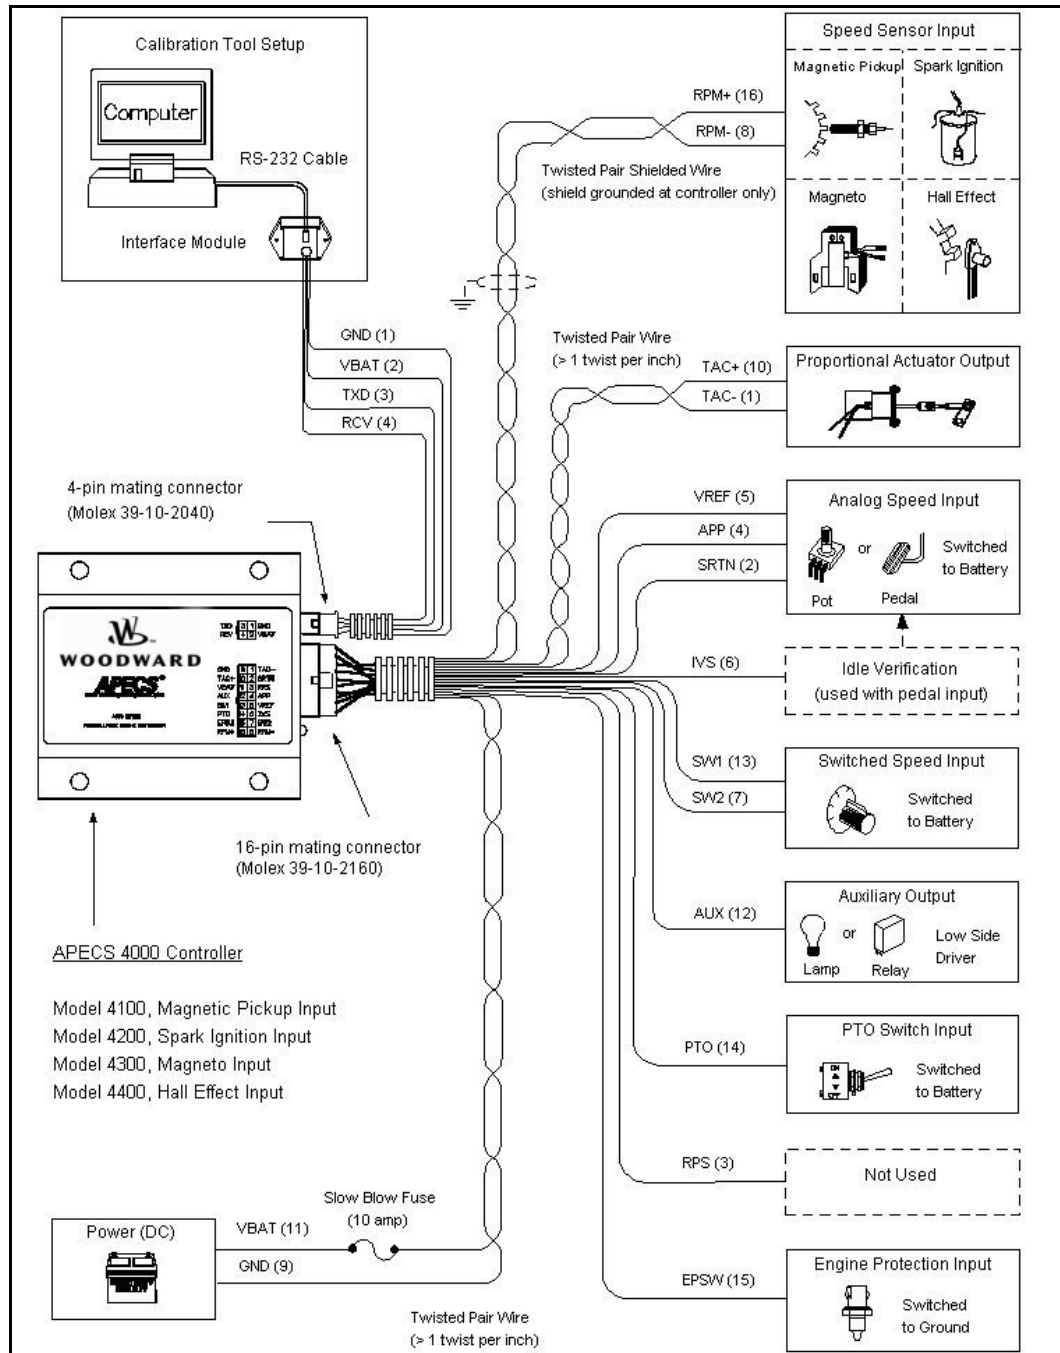

Figure 2. APECS 4000 Wiring Diagram
1. Refer to **Figure 2** and **Tables 1 and 2** to install the system and subcomponents
2. Mount the unit in a location where the effects of vibration and temperature are within the specified range. Operating temperature: -40°F to +185°F (40°C to +85°C); vibration: 6 G's from 40 to 2000 Hz. (See **Figure 2** for controller dimensions.)
Refer to **Table 2, Controller Wiring** and **Figure 2, Wiring Diagram** for guidance in selecting the speed sensor suitable for your controller and application.